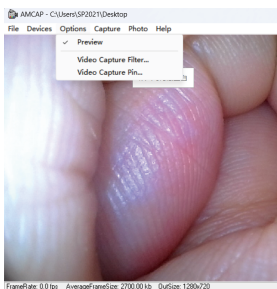

Figure 3
- (1) First open the Amcap camera, click Options and then check Preview (as shown in Figure 3).